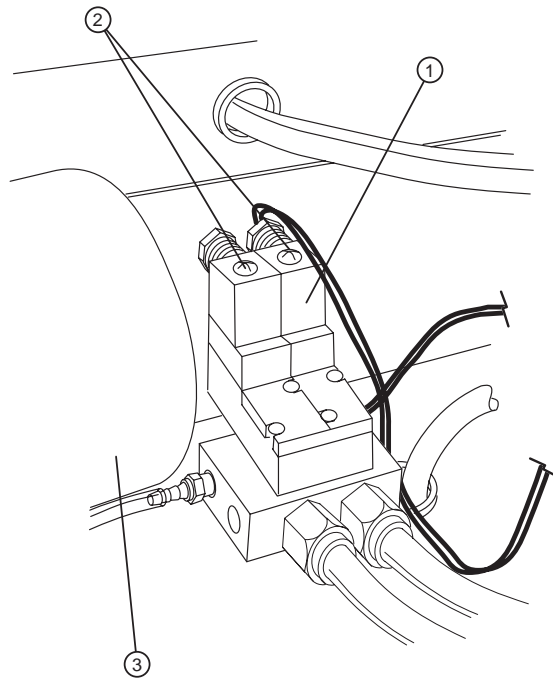

Figure 4-51 Vacuum valves.
- Using a phillips screwdriver, remove the screw (one each) in the valve tops. Refer to Figure 4-51.